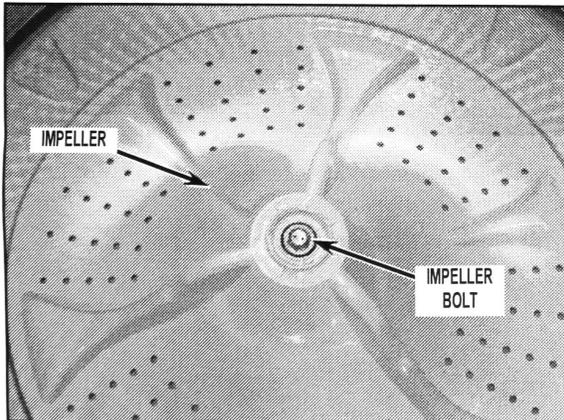

FIGURE 2
2. Remove impeller. Remove cap covering impeller bolt, with a flat blade screwdriver. Remove impeller bolt, pull up on impeller to remove. See *Figure 2*.